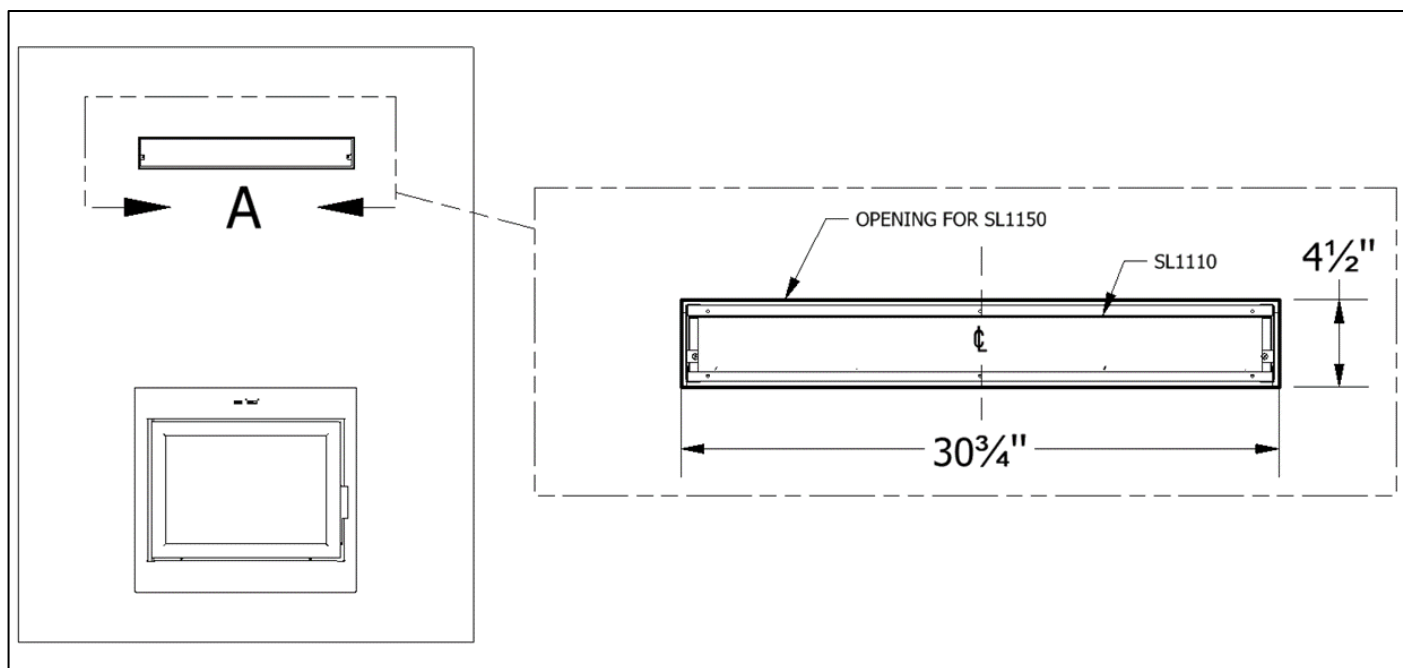

Figure 3-33: Opening for Air Outtake
10. Once the chase has been built, locate the linear duct/louver adapter outlet and cut an opening on the chase finishing material of 30.75" (W) X 4.5" (H) centered with the outlet (Figure 3-33).